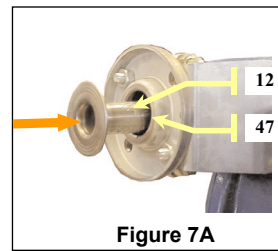

Figure 7A
- Install discharge flange (47) to the flange brackets (18) with two diametrically opposite flange screws and nuts.
- Coat the outside of the hose (16) with lubricant (14).
- Insert the free end of the hose (16) into the inlet side of the pump casing (1).
- Jog the motor to draw the hose into the pump. Bring the hose close to the discharge flange (47), leaving enough room to slide the hose clamp (9) over the hose.
- Coat the outside of one of the inserts (12) with lubricant.
- Install the insert (12) into the discharge side of the hose through the flange (47) opening until it is flush with the flange face. See Figure 7A & 7B.